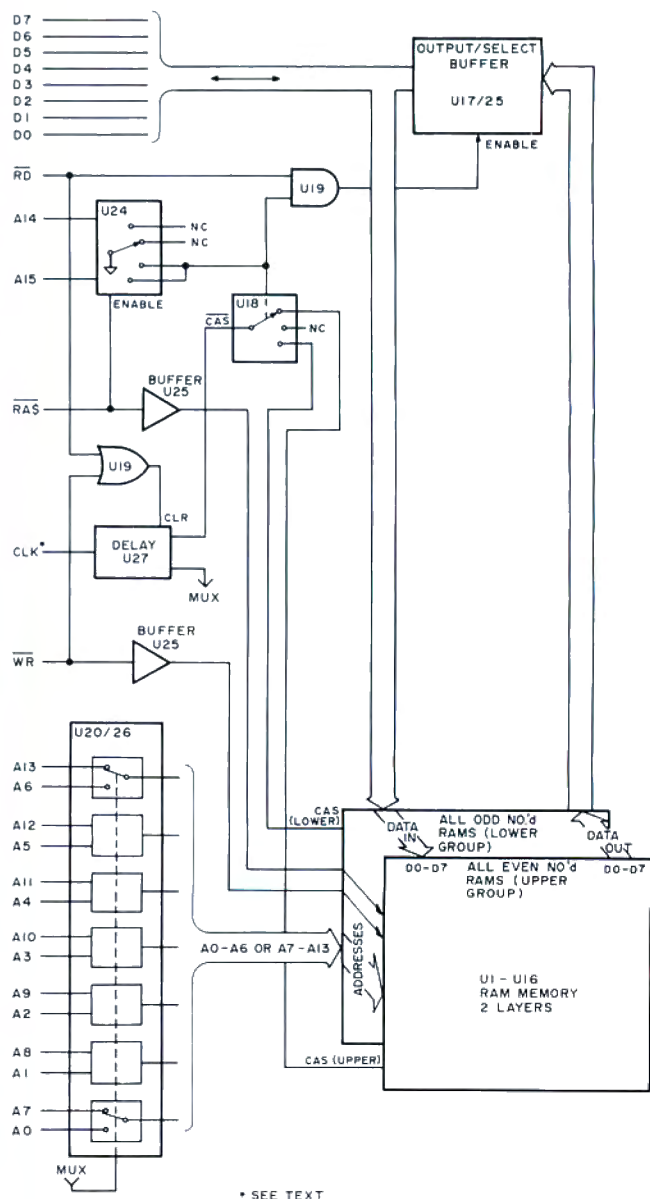

Fig. 2. 32K memory logic circuitry block
See Fig. 2 for a block diagram and Fig. 3 for a schematic diagram of the memory add-on circuit. The address lines are common to all 16 RAMs, as are the RAS and write (WR) command lines. The RAMs are arranged in two groups of eight, each group operating over a different range of 16,384 addresses. Two col-